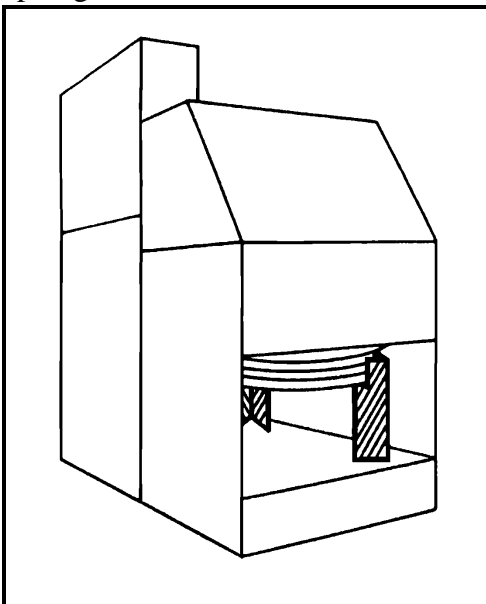

FIGURE 4 (MSSMD423AE)
3. Install the approved bell safety supports supplied with your machine (see FIGURE 4).